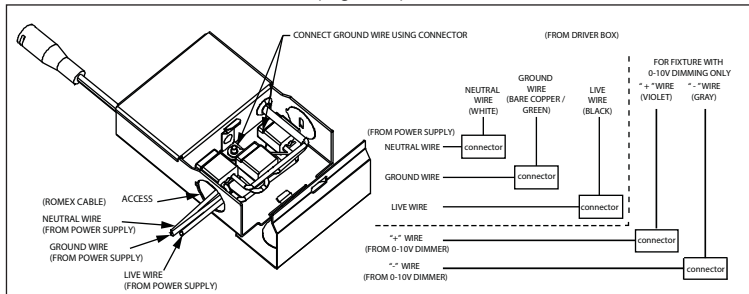

Figure 2 / Figura 2 / Schéma 2
■ **For 0-10V dimming**, use Wirenut to connect violet dimmer wire from fixture (+) to positive (+) wire from dimmer and gray dimmer wire (-) from fixture to negative (-) wire from dimmer. **See dimmer electrical schematic for more info.** Close the cover of the box. (Figure 2)